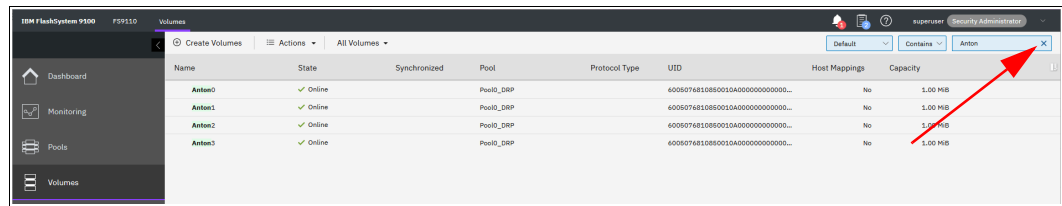

Figure 4-25 Removing the filtered view
3. Remove this filtered view by clicking the **X** icon that displays in the Filter box or by deleting what you searched for and pressing Enter, as shown in Figure 4-25.